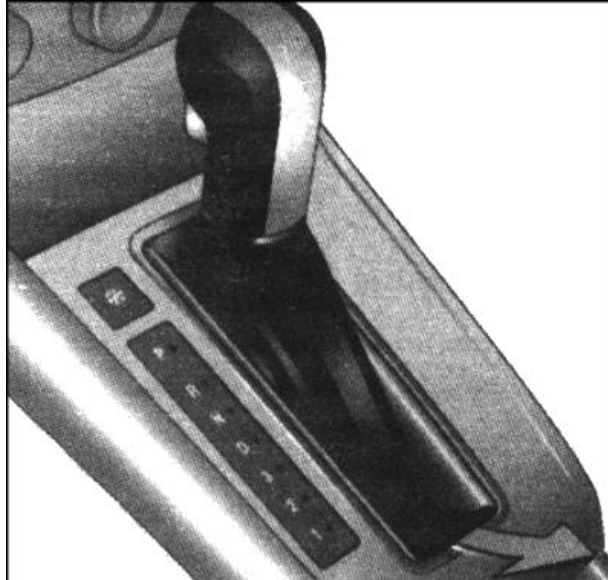

Fig. 1.226. Lifting the hood selector lever
2. Release the latches on the cover behind the gear lever from the middle console and wrap it up (Fig. 1.226).